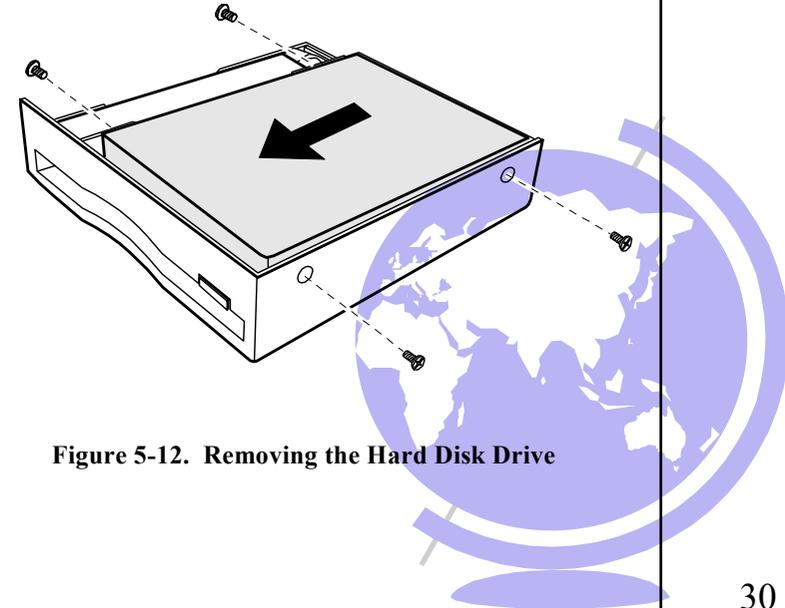

Figure 5-12. Removing the Hard Disk Drive
3. Remove four screws and disconnect the hard disk drive from the connector. (Refer to Figure 5-12.)
1. Place the hard disk drive in the bracket and plug in the hard disk drive connector. Then secure the hard disk drive with four screws. (Refer to Figure 5-12)